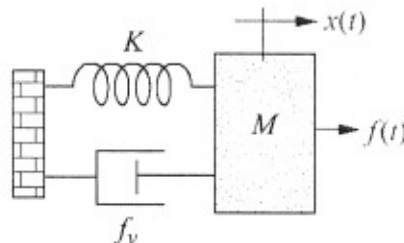

Figure 1
1. [Marks: 15] A translational mechanical system is shown schematically in Figure 1. Given that $M = 2 \text{ kg}$, $f_v = 6 \text{ N-s/m}$, and $K = 8 \text{ N/m}$, do the following for the system: